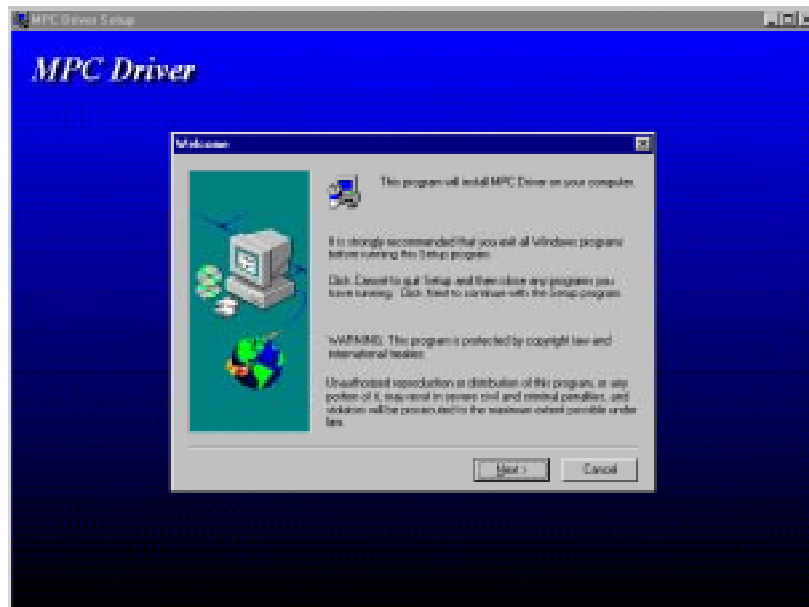

Figure 5-3. MPC Driver Welcome Dialog Box
3. Click **OK** to execute the setup program. The Welcome dialog box will display (Figure 5-3).